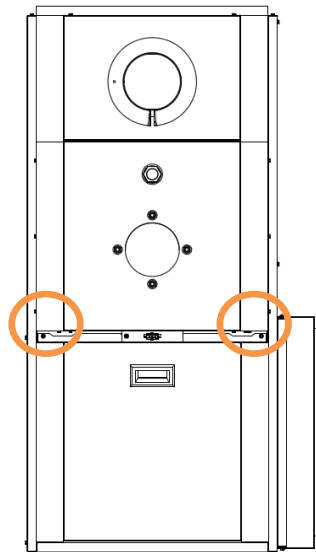

Figure 1
- 2) Remove the two (2) screws securing the blower door (Figure 1).